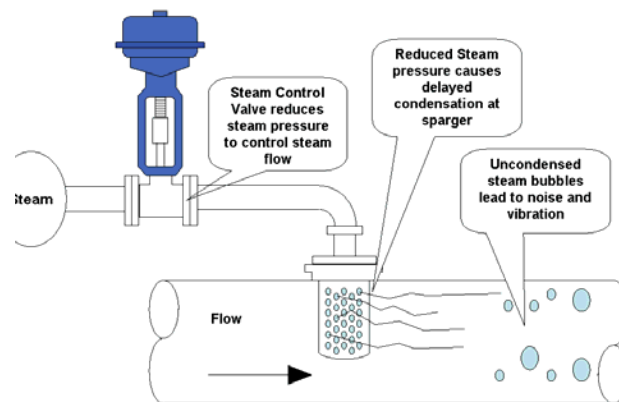

Fig 1 – Externally Controlled Steam Sparger
- **Low velocity steam** leads to uncondensed steam bubbles, which tend to collapse against the pipe walls (Fig. 1). This is what leads to the vibration & steam hammer.